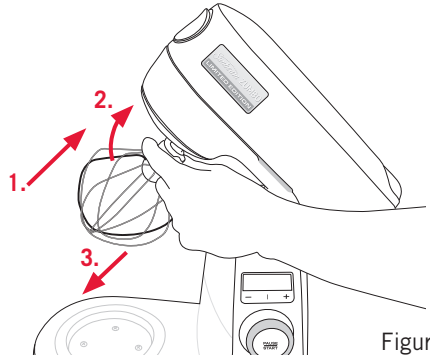

Figure 8
9. To remove the particular mixing attachment, push it upwards, turn it anti-clockwise, then pull it downwards (Fig 8).